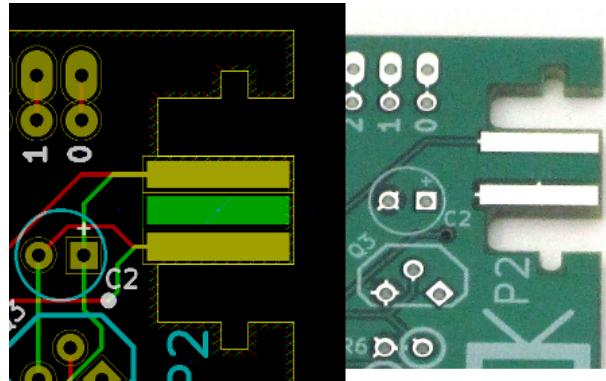

Figure 27: An example of a PCB outline. Source: Link.
13. In the last step we will generate the outline of the PCB. This is the physical boundary of the PCB. Fig. 27 illustrates an example PCB with a non-rectangular outline.